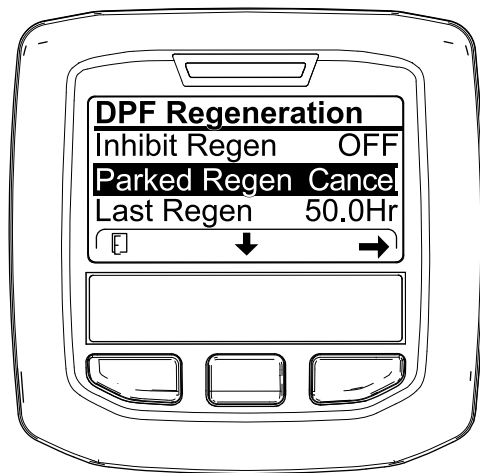
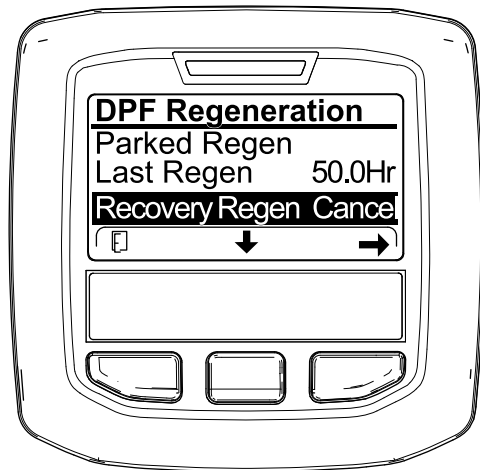

Figure 53
Figure 54
1. Access the DPF Regeneration menu (Figure 53).
2. Press the center button to scroll down to the PARKED REGEN CANCEL (Figure 53) or the RECOVERY REGEN CANCEL option (Figure 54).
3. Press the right button to select the Regen Cancel entry (Figure 53 or Figure 54).